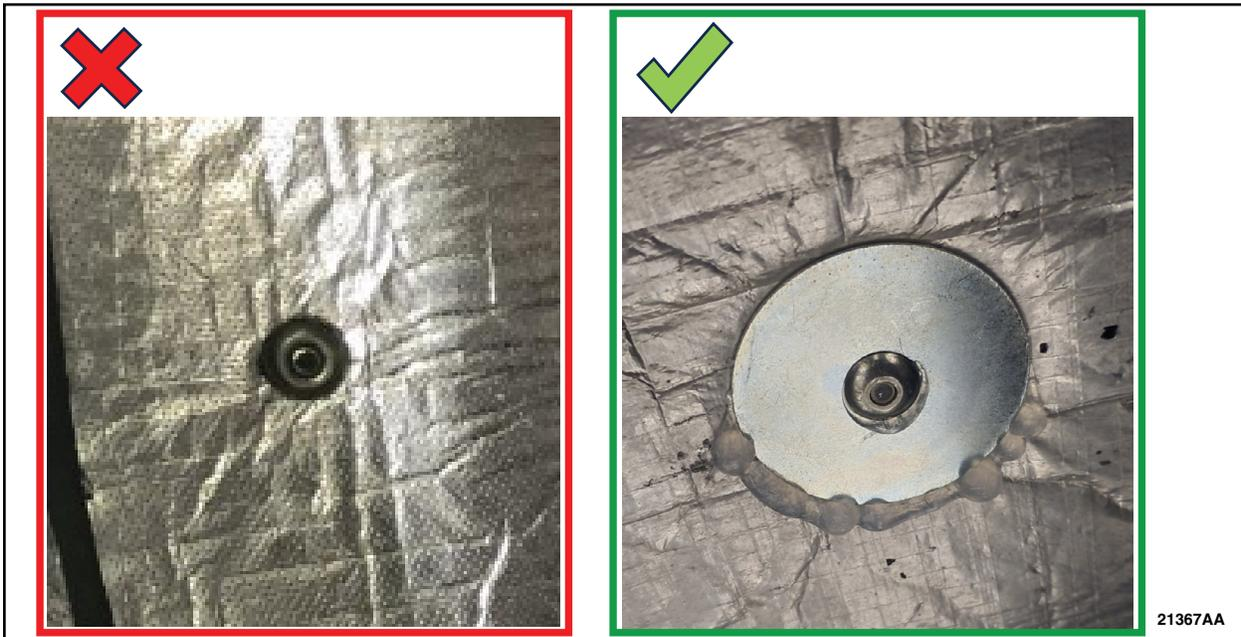

FIGURE 18
19. Using a 1/4" rivet gun, install the rivet and washer to the drilled hole. See Figure 18.